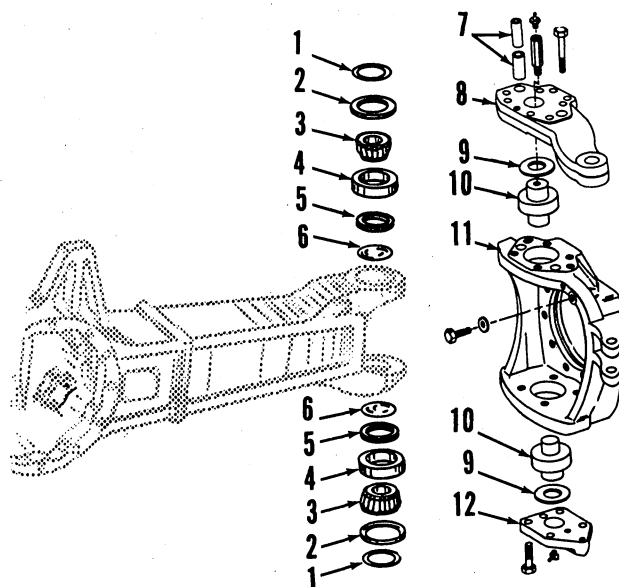
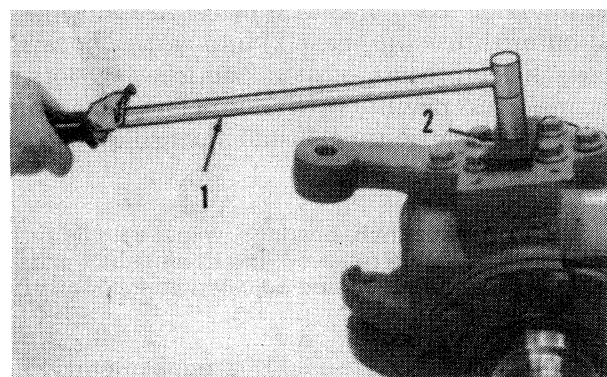

Fig. 23—Exploded view of steering knuckle assembly.
Fig. 23A—Use a spanner bar (2) with a nut welded in the center and a torque wrench (1) to measure torque required to rotate steering knuckle.
13. STEERING KNUCKLE. To service steering knuckle, first drain oil from axle housing. Remove front wheel. Support hub and planetary assembly with a suitable hoist. Remove cap screws securing spindle to knuckle housing, then withdraw planetary assembly with axle shaft. Remove bottom cover (12—Fig. 23), shim washer (9), king pin (10) and bearing (3). Remove steering arm (8) and washer (9), then use a suitable puller to remove upper king pin. To remove bearing cups (4), drive on dust plugs (6).
Check knuckle rolling drag torque as follows: Fabricate a spanner bar (2) with a nut in the center and attach bar to steering arm as shown in Fig. 23A. Then, use a torque wrench to measure torque required to rotate knuckle. Vary thickness of shim washers (9—Fig. 23), if necessary, to obtain rolling torque of 13-16 ft.-lbs. (18-21 N·m). Increasing shim thickness will increase rolling torque and decreasing shim thickness will decrease rolling torque. Be sure upper and lower shims are of equal thickness.